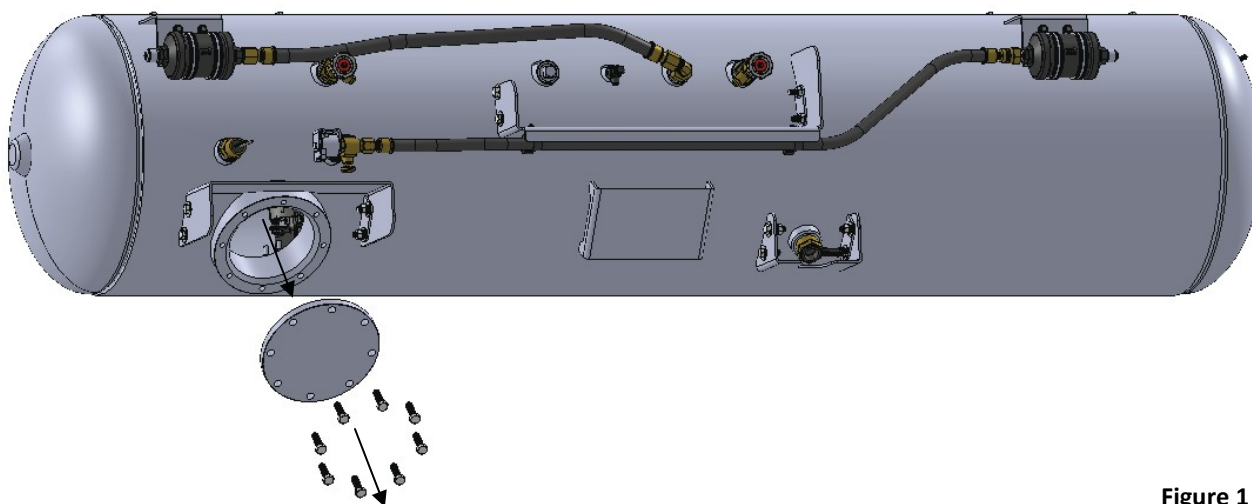

Figure 1
3. Remove LPI® access cover and bolts (QTY:8) (Figure 1) **Note: Be sure to remove and discard o-ring from access cover this will be replaced in the installation process.**